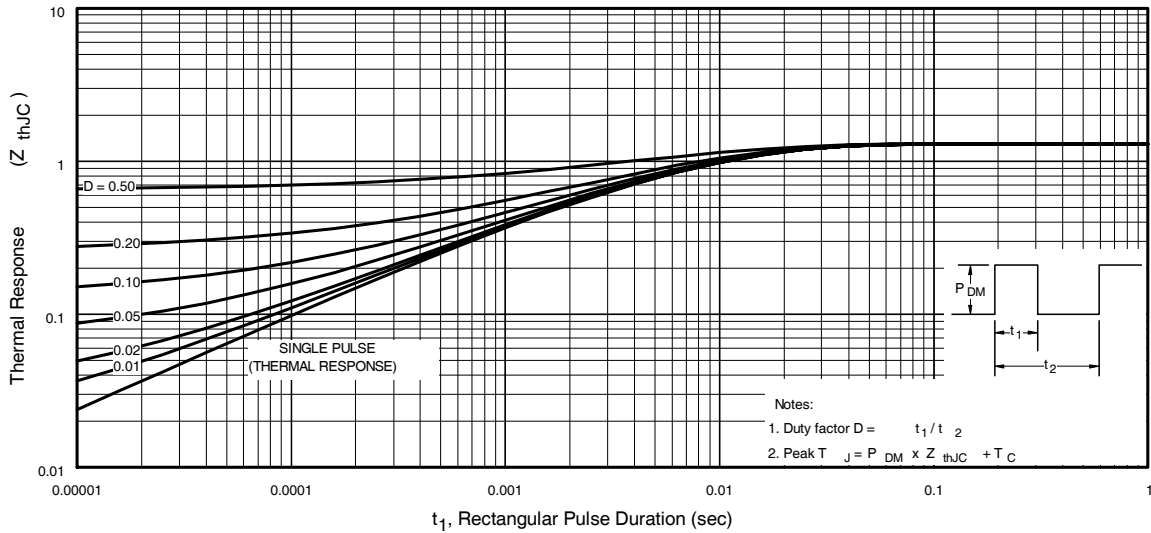

Fig 11. Maximum Effective Transient Thermal Impedance, Junction-to-Case
$Z_{thJC}(D, t_{av})$ = Transient thermal resistance, see figure 11)
- ① Repetitive rating; pulse width limited by max. junction temperature. (See fig. 11).
- ② Limited by T_{Jmax} , starting $T_J = 25^\circ\text{C}$, $L = 0.45\text{mH}$, $R_G = 25\Omega$, $I_{AS} = 30\text{A}$, $V_{GS} = 10\text{V}$. Part not recommended for use above this value.
- ③ $I_{SD} \leq 30\text{A}$, $di/dt \leq 280\text{A}/\mu\text{s}$, $V_{DD} \leq V_{(BR)DSS}$, $T_J \leq 175^\circ\text{C}$.
- ④ Pulse width $\leq 1.0\text{ms}$; duty cycle $\leq 2\%$.
- ⑤ C_{oss} eff. is a fixed capacitance that gives the same charging time as C_{oss} while V_{DS} is rising from 0 to 80% V_{DSS} .